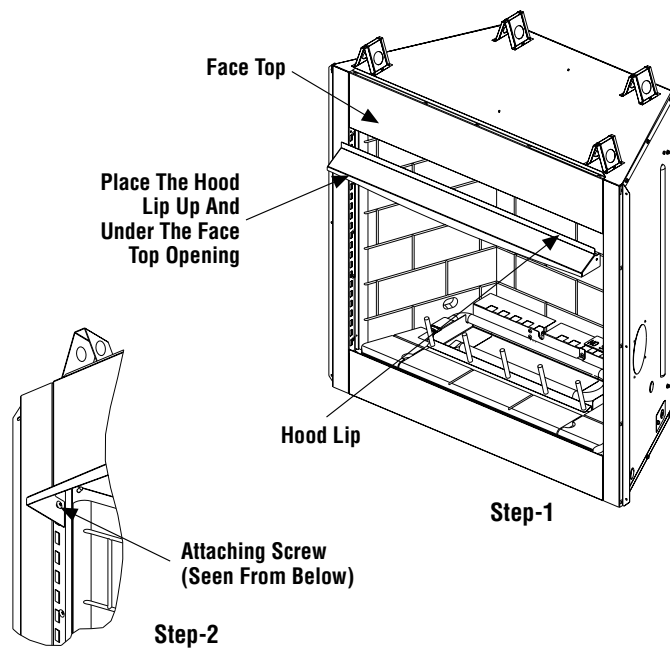

Figure 2
Step 2. Place the hood lip under the face top opening, as shown in **Figure 2 - Step 1**. Attach the hood with two (2) screws, one each side, as shown in **Figure 2 - Step 2**.